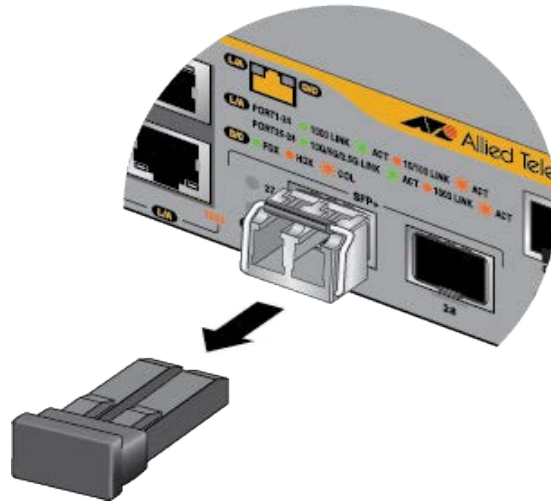

Figure 76. Removing the Dust Cover from an SFP+ Transceiver
5. Remove the dust cover from the transceiver, as shown in Figure 76 on page 121.